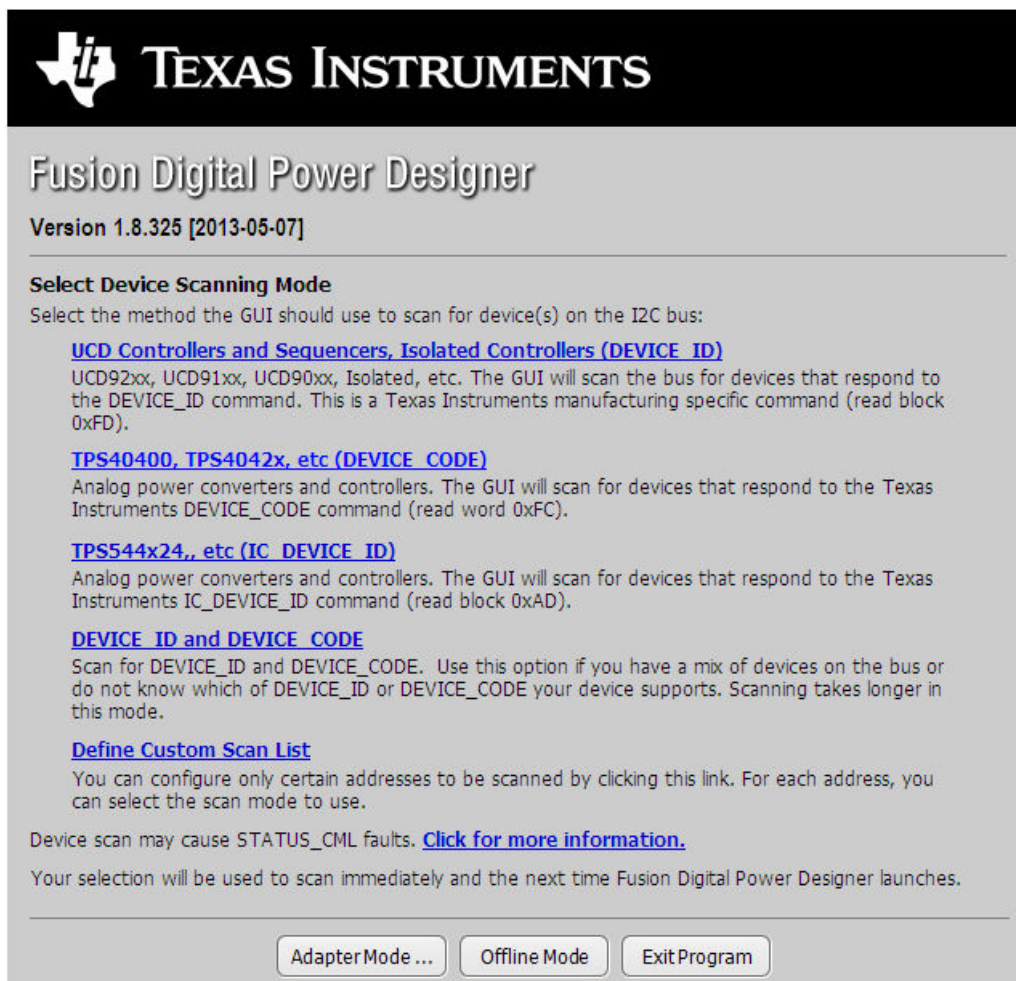

Figure 7-1. Select Device Scanning Mode
9. Double click on the *TPS40400*, *TPS4042x*, *ect* (*DEVICE CODE*) from the *Select Device Scanning Mode* window as shown in Figure 7-1.